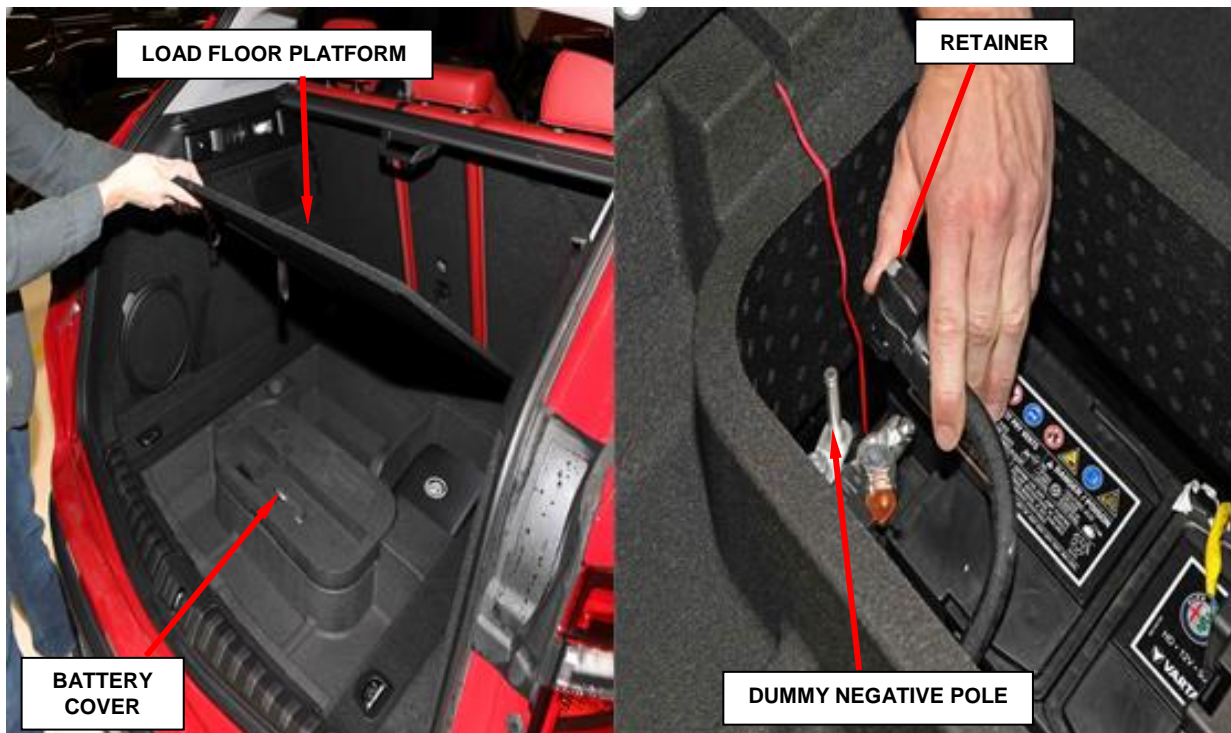

Figure 2 – Battery Access
4. Raise the load platform covering and remove it (Figure 2).
5. Remove the cover from the battery (Figure 2).
6. Press the retainer and disconnect the terminal from the battery “dummy negative pole” (Figure 2).